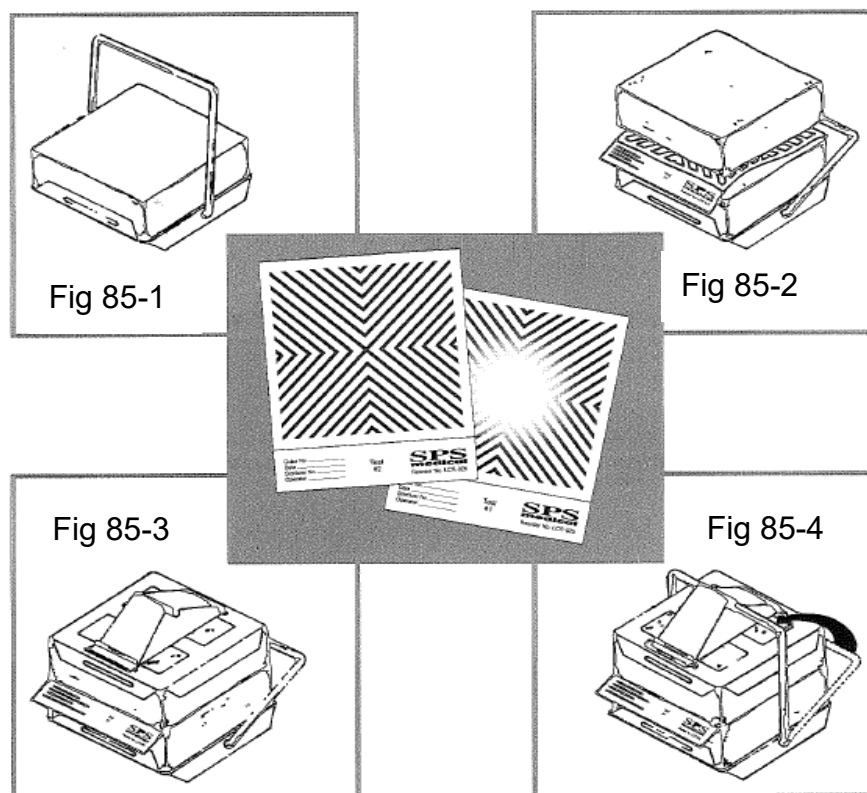

Figure 85
A. Assembly of the cube is reference Figure 85.